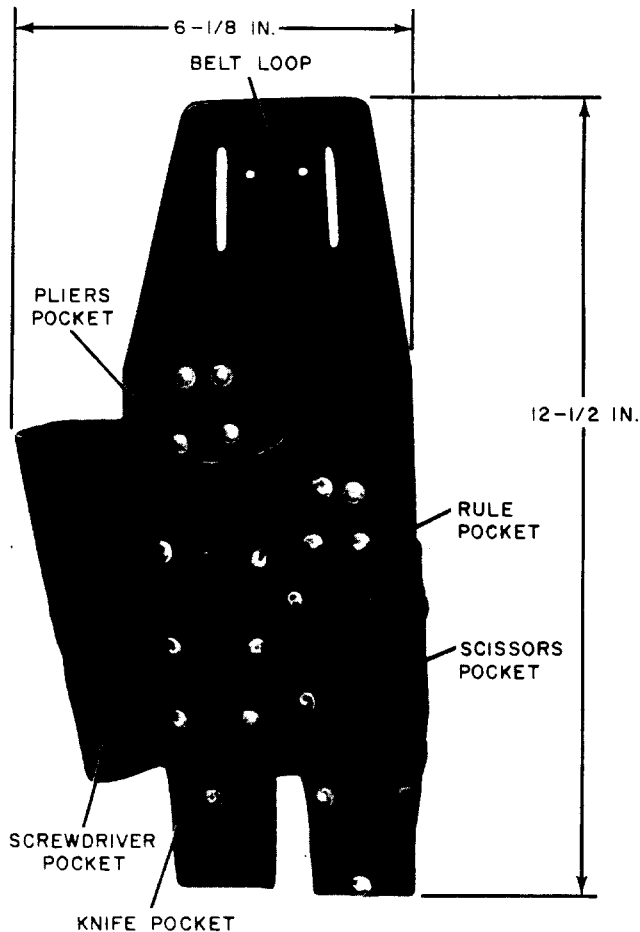

Fig. 2—F Holster (Right)
3.01 ♦The F Holster shown in Fig. 2♦ is a *right* holster for use with a *right* body belt. *Left* holsters for use with *left* body belts are also